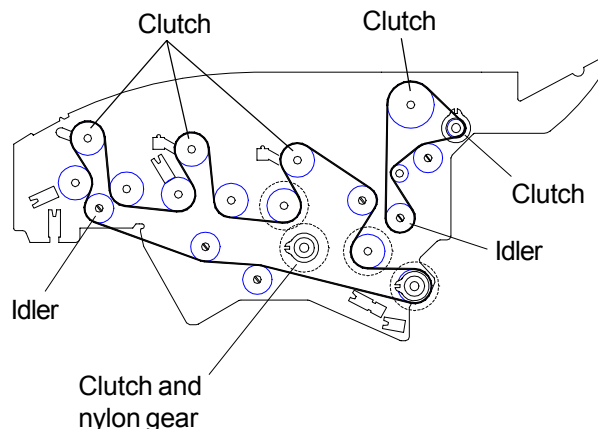

Fig. 7
2. **Main drive belt:** Referring to Fig. 7 below, remove the idler and clutches indicated, and also the nylon gear. Note that access to the idler screw will be eased by removing the clutch on hopper 1 feed shaft; this will allow the subframe to be moved upwards. Lifting the subframe as required, remove the belt (note that one sensor cable may have to be disconnected to release the belt).
4. **Insert feed drive belt:** Referring to Fig. 7 above, remove the clutch and idler indicated. Remove the belt.
2. Remove LH & RH upper drive belts (see Figs. 7 & 10).